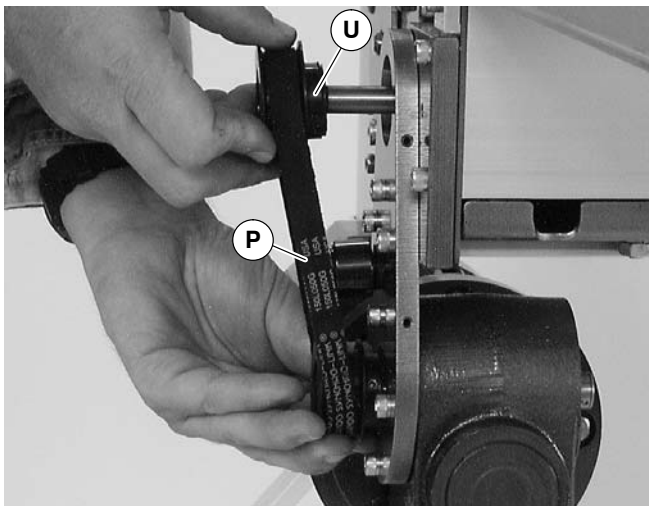

Figure 13
3. Remove timing belt (P of Figure 13).
NOTE: If timing belt does not slide over pulley flange, loosen driven pulley set screws (U of Figure 13) and remove pulley with belt (P). For re-installation, see steps 6 and 7 on page 6.